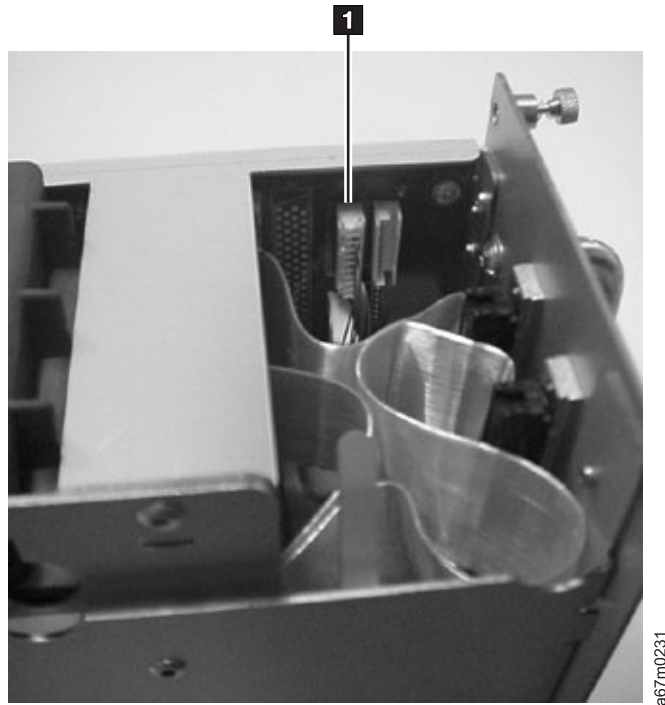

Figure 138. Unplugging the 422 Cable
2. Unplug the RS422 cable from the rear of the drive sled. See **1** in Figure 138 on page 299.